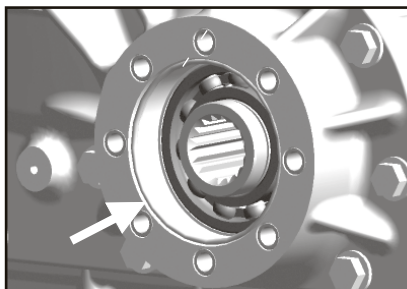

Fig. 7
- a. Install O-Ring as shown in **Fig. 7**.